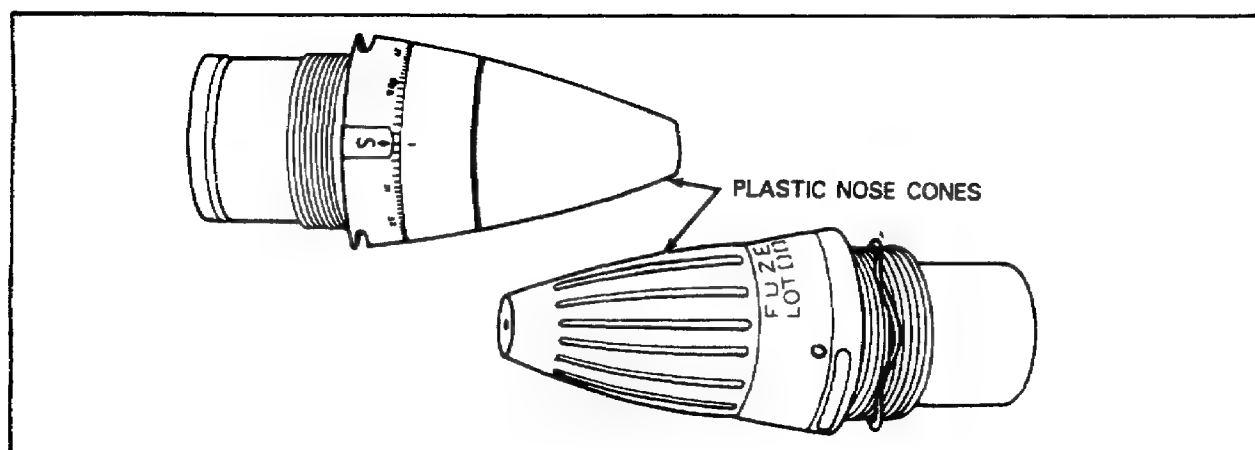

Figure 71. Proximity (VT) Fuzes for 81mm Mortar.
**Proximity.** The proximity fuze, also known as the variable time (VT) fuze, is readily identified by its olive drab plastic nose cone. Figure 71 shows the two proximity fuzes now used in 81mm mortar ammunition.